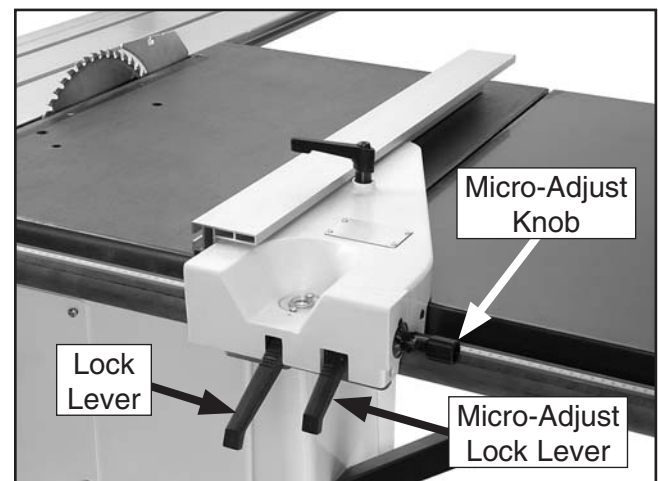

Figure 67. Rip fence micro-adjusting controls.
6. Push down the micro-adjust lock lever (**Figure 67**) and turn the micro-adjust knob to zero in on the desired width-of-cut.